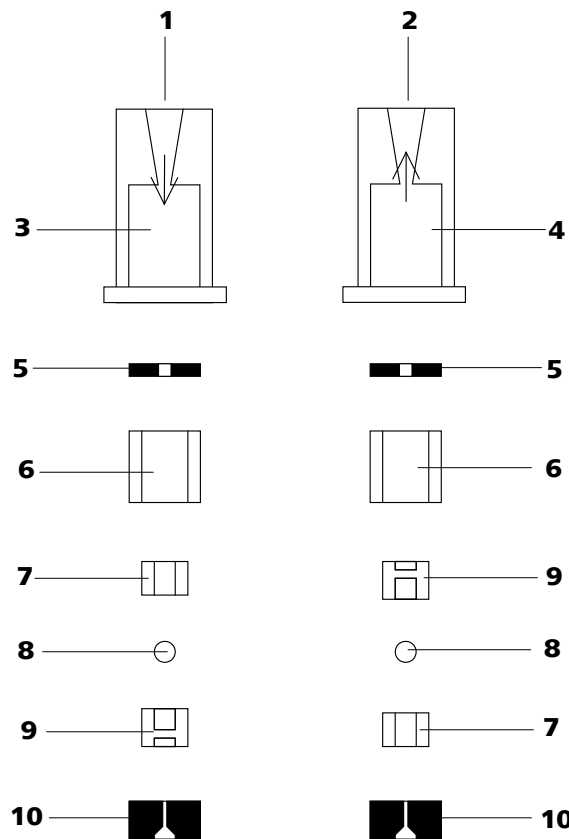

Figure 44 Components of the inlet valve and outlet valve
- The inlet valve and the outlet valve consist of the same, just differently arranged components (see figure 44, page 83).
Reassemble valve components *according to figure 44, page 83*.
- Lay the other valve components above another in the correct sequence (*see figure 44, page 83*).
If this is not the case, the valve has to be dismantled again and be reassembled correctly (*see figure 44, page 83*).